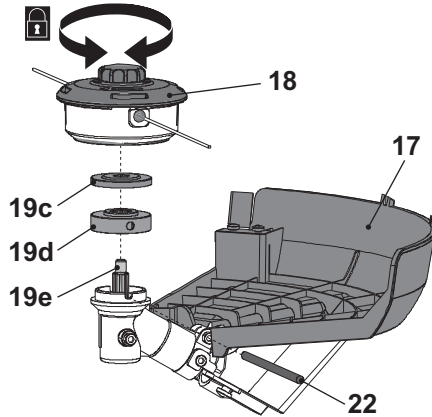

Fig. 8
- Remove the spindle lock rod (22) (Fig. 8).